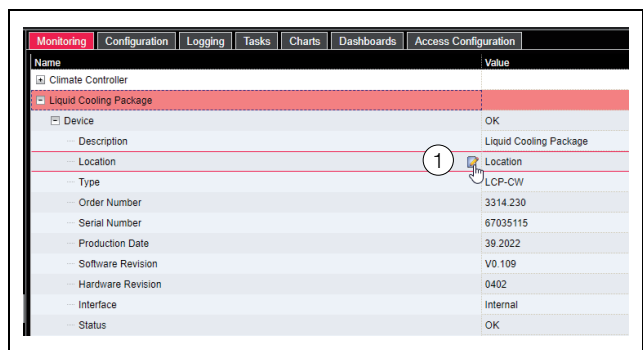

Fig. 117: Editable parameter with "Edit" symbol
For all parameters that can be changed, an "Edit" symbol in the form of a stylised notepad and pen will appear after the respective parameter if the mouse pointer is placed in the relevant line (fig. 117, item 1).